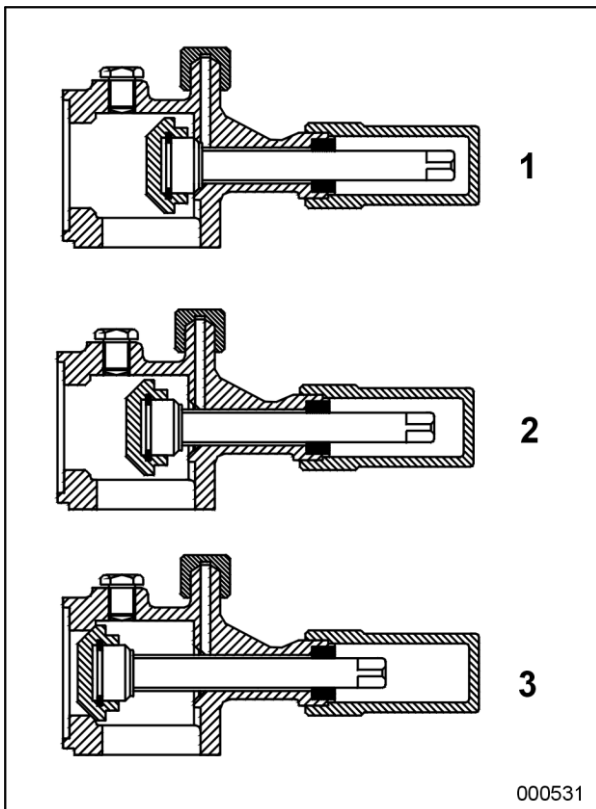

Figure 3: Service valve positions
- Van Hool has determined that the position of the high-pressure switch and the test connection on the refrigerant compressor discharge service valve has been incorrectly placed during the assembly process. The result is that the high-pressure protection system of the refrigerant circuit is not working when the discharge valve is in its normal running position (refer to figure 3 for service valve positions).